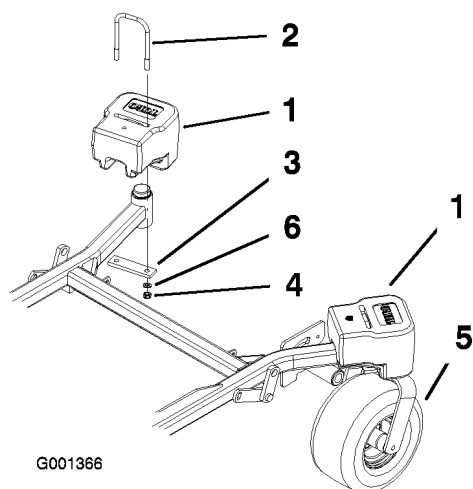

Figure 28
2. Install plate, nuts (1/2 inch) and lock washer (1/2 inch) under the frame and weight (Figure 28).